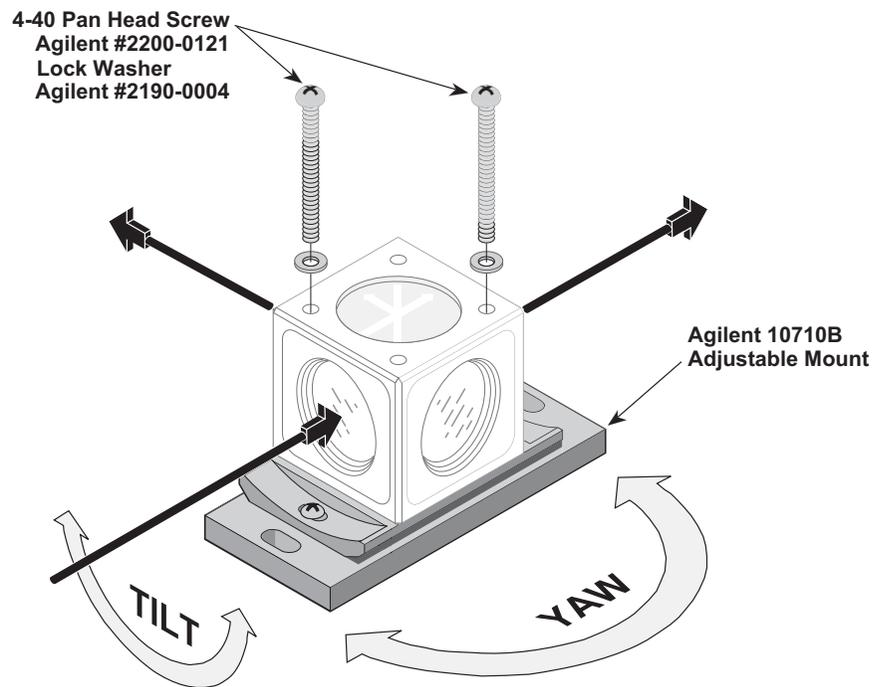

Figure 22 Horizontal plane mounting using the Agilent 10710B adjustable mount
- 1 Figure 22 shows how to mount the beam splitting and beam bending optics or the single-beam interferometer in the horizontal plane, using the Agilent 10710B Adjustable Mount.